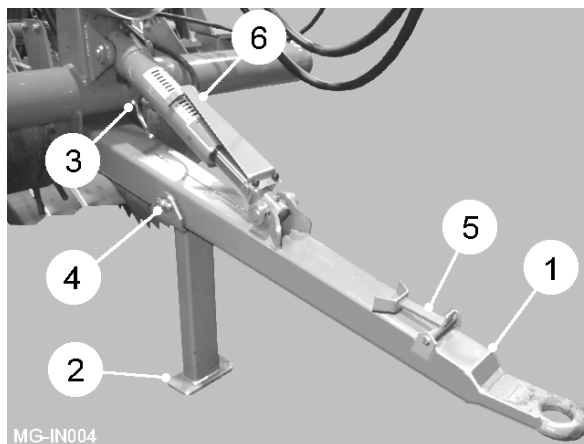
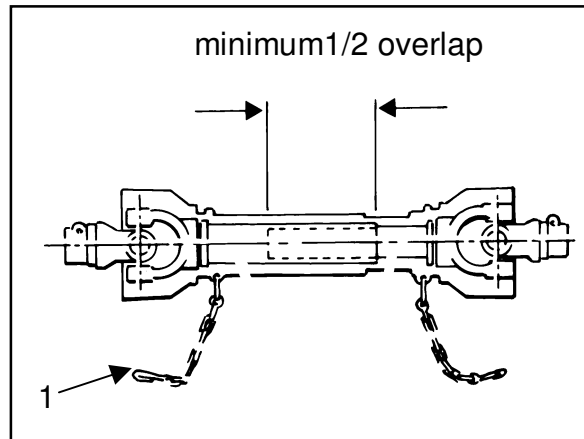
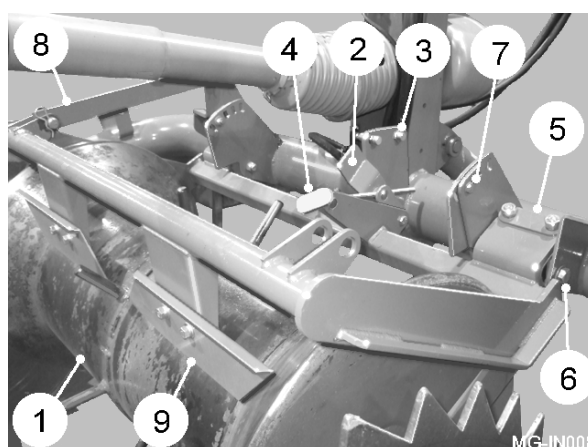

Fig 1
Fig 2
Fig 8
The drawbar (item 1, fig 1) is designed to be attached to the tractor's swinging drawbar. The tractor drawbar should be fixed in its central position. Consult the tractor manufacturer's handbook for details. The machine drawbar eye should be checked regularly to ensure it is free moving and kept greased to prevent excessive wear.
The stand (item 2, fig 1) is provided so that the machine is held at a suitable height for safely coupling to the tractor. To adjust the height, connect the hydraulic hoses to the tractor and open the drawbar transport lock valve (item 3, fig 1). Operate the control box share depth control to achieve the correct drawbar height.
Once securely attached to the tractor, raise the machine and remove the stand locking pin (item 4, fig 1). Store the stand on the LH side of the front chassis using the locking pin.
Fit the two halves of the PTO shaft onto their respective drive shafts on the machine and tractor. Check the shaft length by turning the tractor fully in both directions with the machine in its working position while attached to the tractor's pick-up hitch. Ensure the sliding tubes, when fully extended, have an overlap at least half the closed length (see figure 2). Ensure that the ends of the sliding tubes when at the shortest point are not in contact with other parts of the PTO shaft. If necessary, shorten both tubes and guards equally to achieve end clearance at the minimum length position.
Ensure that the safety chains (item 1, fig 2) used to prevent the guards from turning, are fixed to the tractor and implement in such a way that they will not be stretched when the drive shaft is at maximum articulation. When disconnected from the tractor, position the PTO shaft on the drawbar rest (item 5, fig 1).
Manual/automatic depth control ensures an even depth of soil in the finished bed. The depth roller (item 1, fig 8) runs on top of the preformed bed following the contours. On machines with manual depth control a turnbuckle is fitted between the chassis and depth roller frame. Adjusting the length of the turnbuckle effects the digging depth of the shares. On machines with automatic depth control, the depth roller is linked to a trigger plate (item 2, fig 8) which activates a pair of proximity sensors (item 3, fig 8) which then, via the valve block, actuate the share depth ram. Turning the adjuster handle (item 4, fig 8) changes the relationship between the depth roller and the trigger plate thus adjusting the working depth. An optional linear actuator can be fitted in place of the handle mechanism allowing adjustment from the in-cab control box. A depth indicator (item 6, fig 1) is fitted to the share depth ram giving the operator a visual indication of the action of the sensing system.
The depth roller frame pivots on two rubber torsion mountings (item 5, fig 8). By adjusting these mountings it is possible to adjust the amount of pressure the roller exerts on the soil. The adjustment is made with the machine raised out of work with the roller hanging freely. Loosen the torsion mounting bolts (item 6, fig 8) and remove the pressure setting bolts (item 7, fig 8) and raise the roller until the holes align with the chosen hole setting and refit the bolts.
A transport strap (item 8, fig 8) is fitted between the depth roller frame and the chassis. The strap must be removed before commencing work.
The scrapers (item 9, fig 8) are fitted to the to eliminate dirt build up on the roller. Set the scrapers as close as possible to the roller surface but ensure they do not restrict the roller from turning.